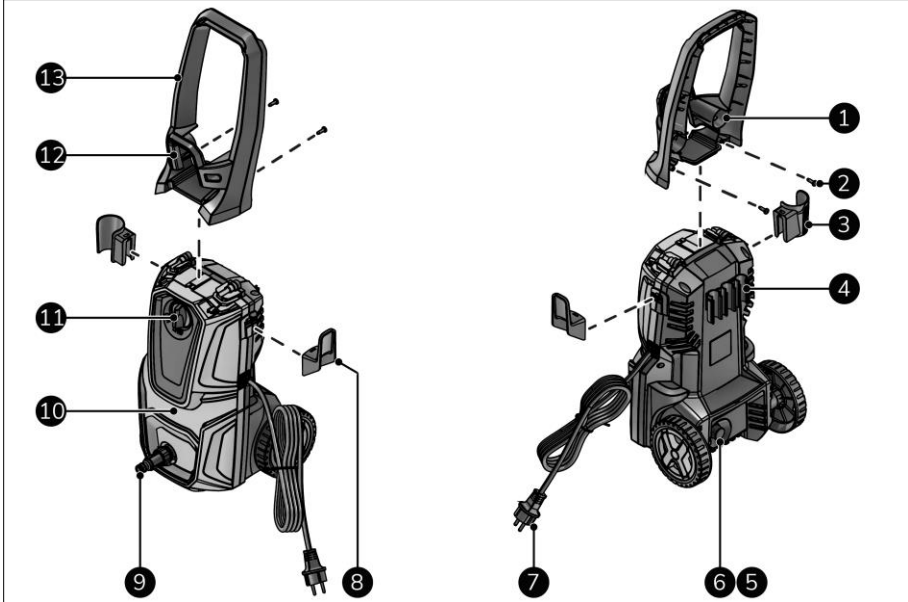

Figure 4
This EUROM device is an easy-to-use high-pressure cleaner (Figure 4). The device is designed for household use, such as cleaning vehicles, buildings, terraces, facades and garden equipment.
1. Make sure the ON(I)/OFF(0) switch is in the OFF(0) position (Figure 4, pos. 11).
5. Switch the device on (Figure 4, pos. 11).